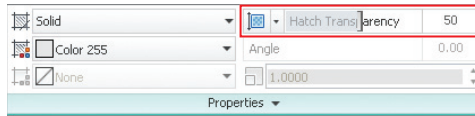

FIGURE 8.7 Overriding layer transparency within the **HATCH** command
18. Drag the Hatch Transparency slider to the right until the value is approximately 50 (see Figure 8.7).